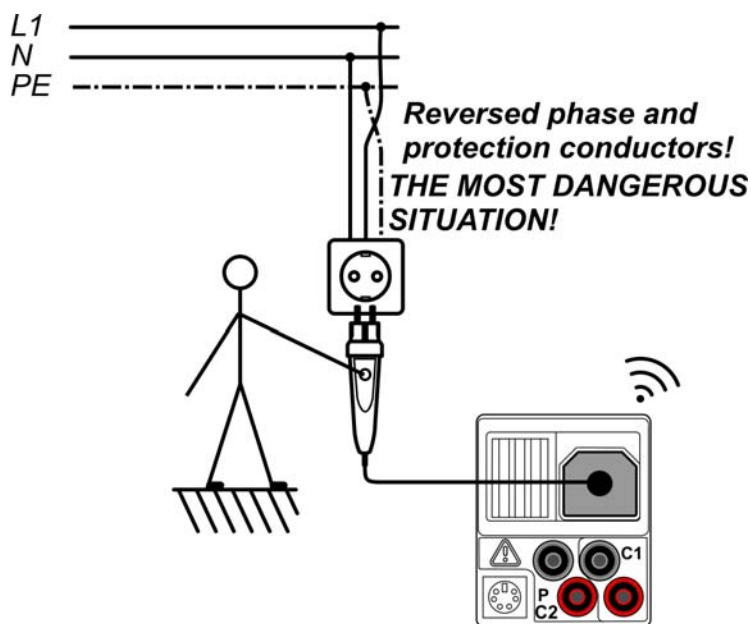

Figure 5.36: Reversed L and PE conductors (plug commander)
- ❑ **Connect** test leads to the item to be tested (see *figures 5.36* and *5.37*).